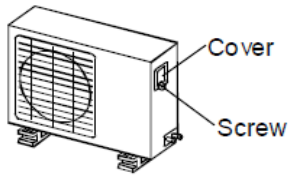

Figure 17
1. Remove the electrical control board cover from the outdoor unit by loosening the screw. See figure 17.